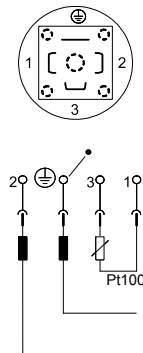

Fig. 2: Connection table of the sensor
4. Remove the isolation of the cable and wires. Connect the cable (see fig. 2).